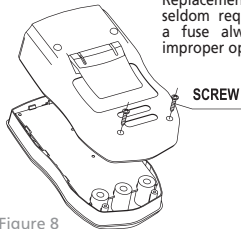

Figure 8
B. Replacing the Battery (Figure 8)
C. Replacing the Fuses (Figure 8)